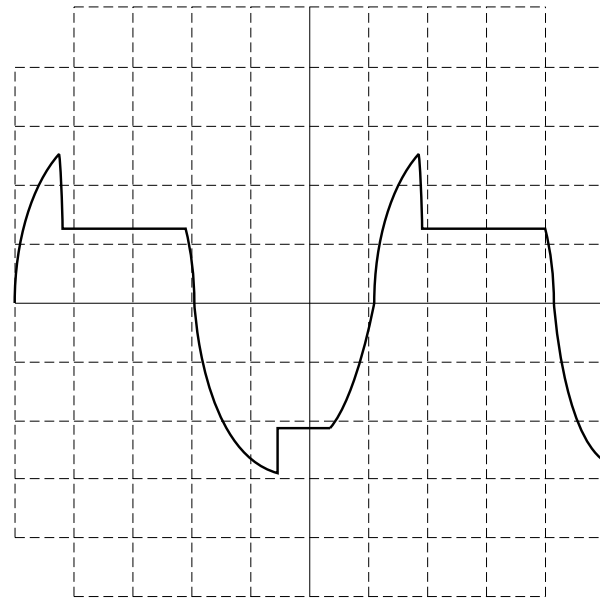

Figure 5. ODEP Limiting Wave Form
**Procedure:** Load the amplifier to 2 ohms per channel. Inject a 60 Hz sine wave into each channel and adjust the output to 15 VAC. Allow the amplifier to heat up until you observe a wave form similar to figure 5. Allow the amplifier to cool for a few minutes. Switch the amplifier to Parallel Mono mode and remove the load from channel 2. Inject a 60 Hz sine wave into each channel and adjust the output to 15 VAC. Allow the amplifier to heat up and observe limiting on both channels.